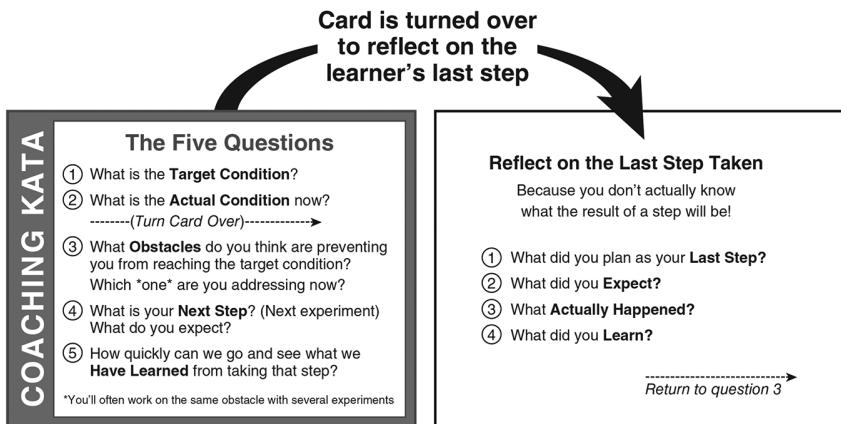

Figure 12.6 A starter kata for the coach.
It is recommended this be done in pairs—a learner with a coach. The learner is leading the project and often acts as the leader of a team. The coach meets regularly, ideally daily, with the learner. Rother also developed a coaching kata (CK) that helps get the coach engaged with a “five-question” starter kata (see Figure 12.6). The learner documents his or her IK process on a storyboard, which itself is one of the starter kata routines. The coach asks questions from each category, which mirrors the IK pattern. They are nested questions beginning with the target condition and actual condition, and on the flip side are questions to reflect on the last experiment that the learner has run. Each experiment is practiced via another starter kata, following the pattern of description, prediction, results, and reflection (PDCA). The comparison between prediction and actual results provides an opportunity for learning.